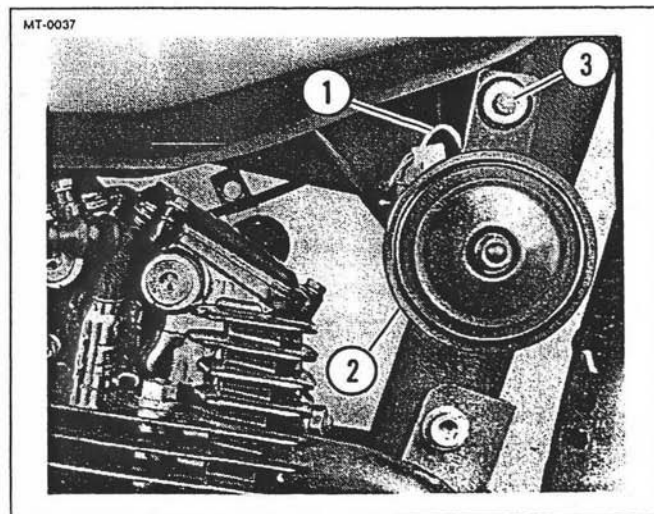

Figure 4-11. Horn and Electrical Lead
Step 1. See Figure 4-11. Check electrical lead (1) to be sure it is connected to terminal on horn (2). Check that horn is grounded at mounting bracket capscrew (3).